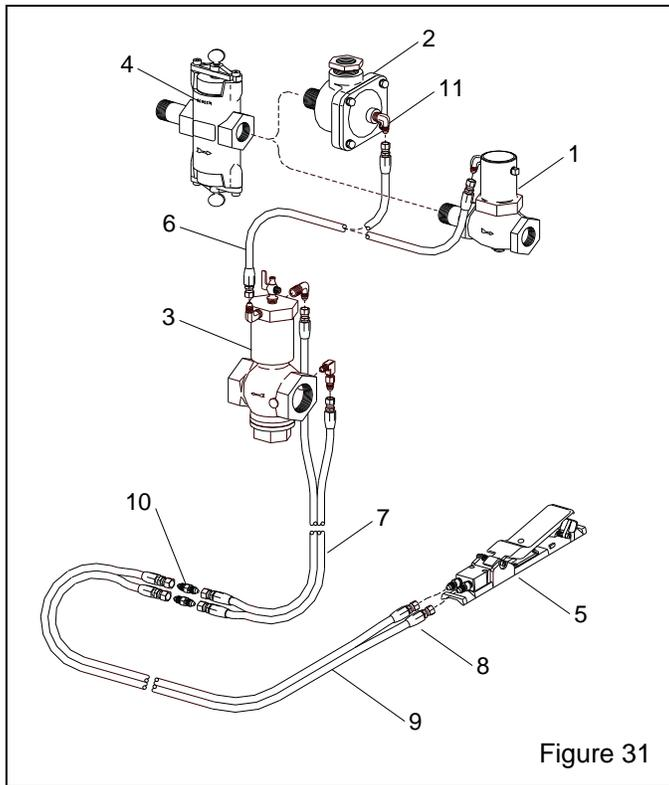

Figure 31
8.7 Remote Control System Parts, Figure 31
NOTE: All parts not shown are the same as those shown in Section 8.7, and Figure 31. Refer to the RLX manual for replacement parts for ACS parts. Refer to the metering valve manual for metering valve replacement parts.